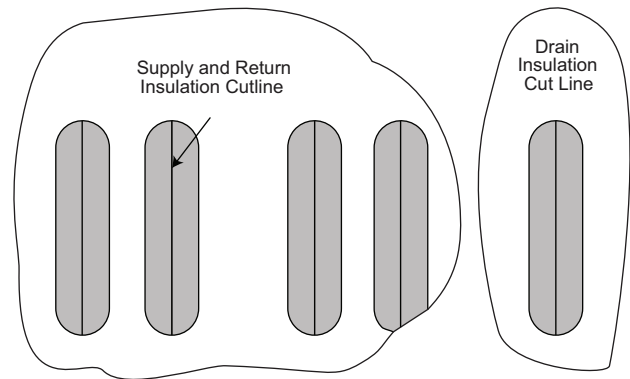

Fig. 22 – 42SUA Unit Knockout Insulation Removal
6. Use a sharp retractable knife (see Fig. 22) and vertically cut the insulation down the center of the riser and drain knockouts the full length of the knockout.